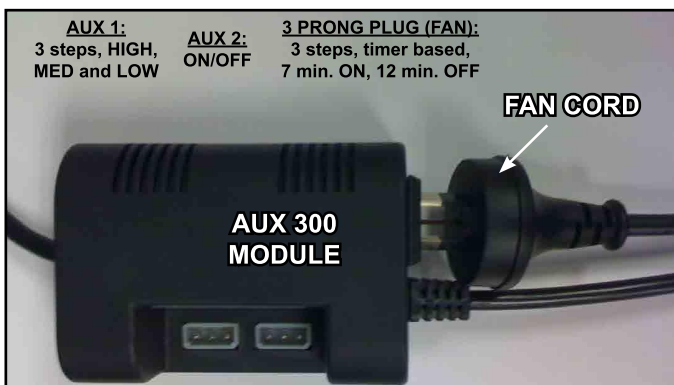

Figure 12.9 - Plug Fan into AUX300CE Module
- Insert the 3 prong plug from the fan into the receptacle located in the AUX300CE module. See Figure 12.9.